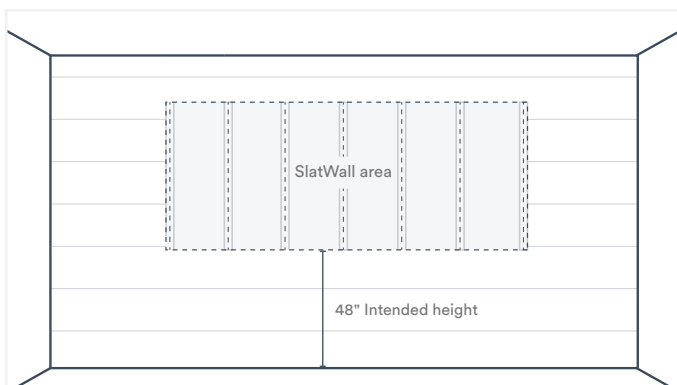

Fig. 14
- a. The distance from the floor to the bottom of the first SlatWall panel is an even increment of 16" (the width of the exposed face of Wall&CeilingBoard panels). The resulting connection between SlatWall and Wall&CeilingBoard is shown below (Fig. 14).